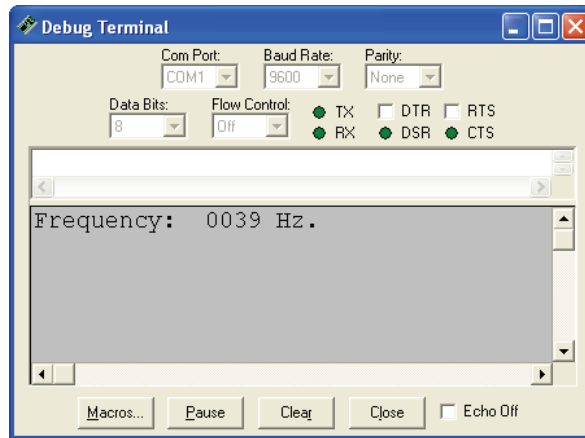

Figure 6-7
When you run the program, and adjust pot B to its maximum, the output should be somewhere in the neighborhood of the frequency shown in Figure 6-7.
3. For the circuit in Figure 6-7, what resistance value does the pot have to be to make the astable multivibrator circuit generate a 2 kHz signal? This requires some algebra.